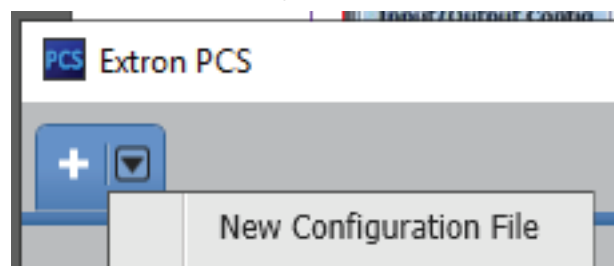

Figure 11. Configuration Drop-down List
1. Click the hidden menu icon () to access a drop-down list (see figure 11, ❶).
2. Click **Extron PCS Help** to open the help file (❷).
1. In the **Start-up** tab drop-down list, select **New Configuration File** (see figure 11).